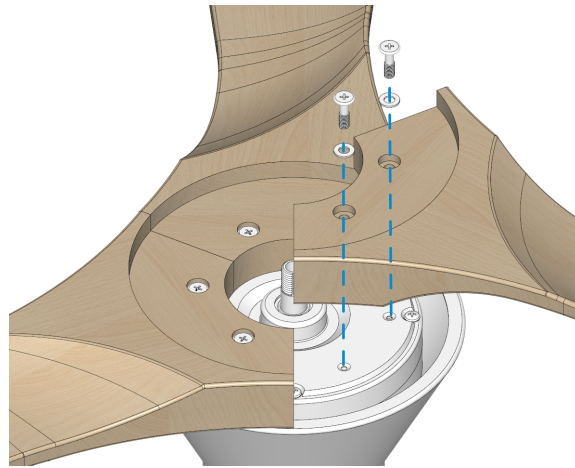

Fig. 1.1
1.1 Locate the 6 blade attachment screws and washers included in the hardware pack. Use these screws and washers to firmly attach each blade to the motor hub, as demonstrated in Fig. 1.1.